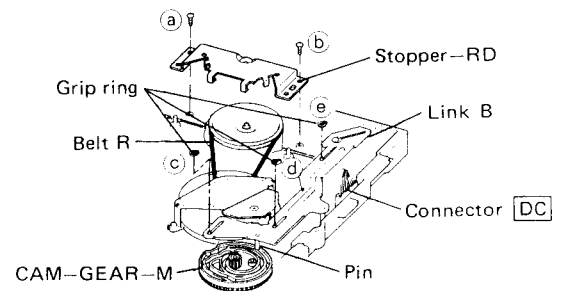

Fig. 3-7
- 1) On the underside of the transport deck, remove the two stopper-RD retaining screws (a and b) as shown in Fig. 3-7.
- 3) Remove the three Grip rings (c, d and e) retaining the link-B and remove the link-B as shown in Fig. 3-7.
- 4) Disconnect connector [DC] as shown in Fig. 3-7.
- 2) Reconnect connector [DC] as shown in Fig. 3-7.